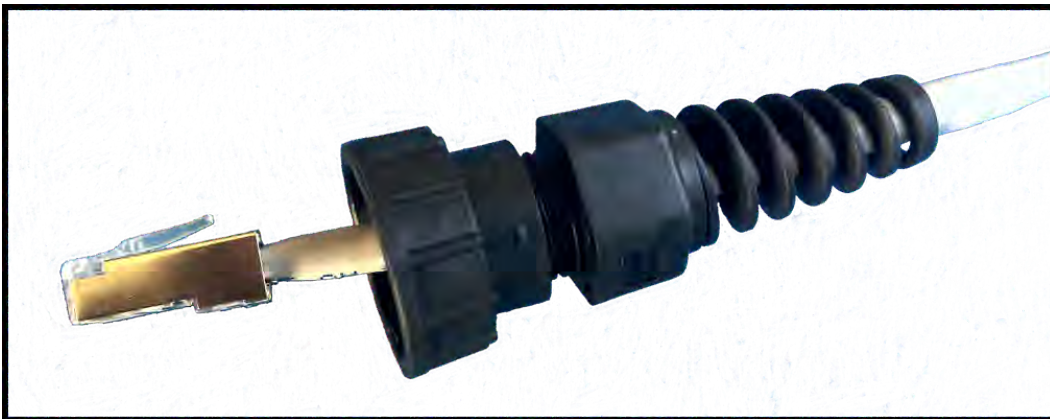

Figure 12: Strain relief on the connector
9. Thread the strain relief onto the connector body and tighten a few turns (see Figure 12).